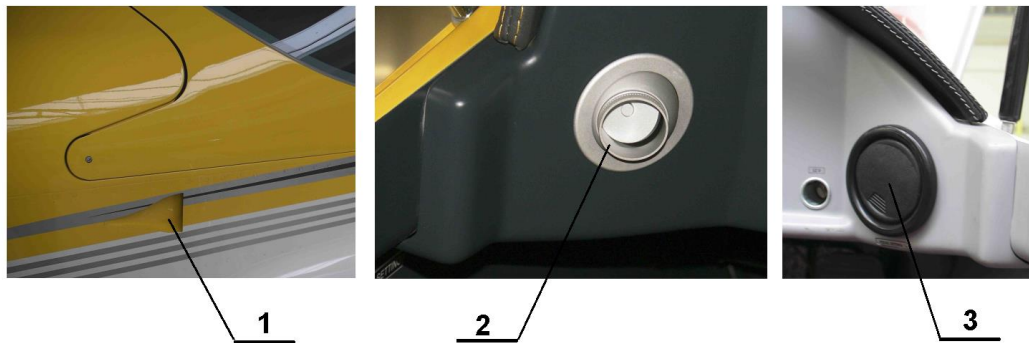
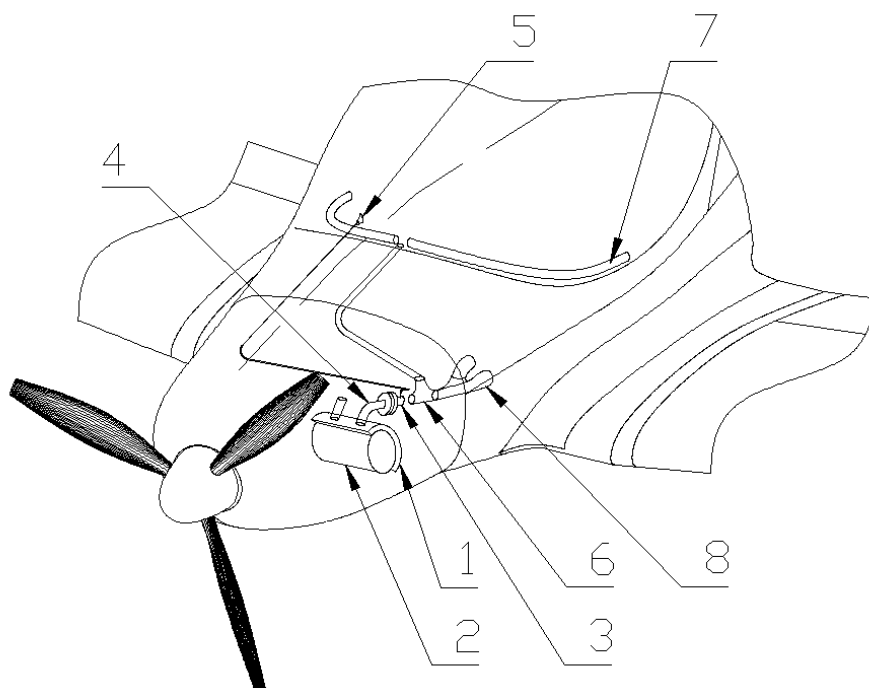

Fig. 13-1
Fig. 13-2
Cockpit ventilation is ensured by two eyeball (2) or automotive (3) air vents located in the cockpit on side panels of the instrument panel (see Fig. 13-1). Air inlets – Naca scoops (1) are located on both fuselage sides in front of the canopy. There is a composite part connected to the Naca scoop from inside the cockpit and a flexible hose is used to connect the air vent with the composite part.
Cockpit heating is ensured by hot air from the heat exchanger (see Fig. 13-2). The heat exchanger (1) is located on the muffler (2). Ambient inlet air taken by the muffler (2) is heated in the heat exchanger (1) and supplied through control flap (3) located on the firewall into the cockpit by air hose (4). Quantity of hot air is regulated by **HEATING** knob (5) on the instrument panel. Behind the firewall is located mixture flap (6), which divides hot air flowing on the canopy bubble outlet (7) and on the crew legs outlet (8).
- Disconnect the control cable on the control flap lever (3) (see Fig. 13-1) and mixture flap lever (6) (see Fig.13-2).
- Remove the nuts (1) thus releasing the flexible housing (3) with the control knob (2).
- Remove the control knob with cable from the flexible housing (3).
- Insert the control knob (2) into the flexible housing and fasten it from both sides of the instrument panel by means of nuts (1).
- Connect the control cable with control flap lever (3) and (6) (see Fig. 13-1, Fig. 13-2).